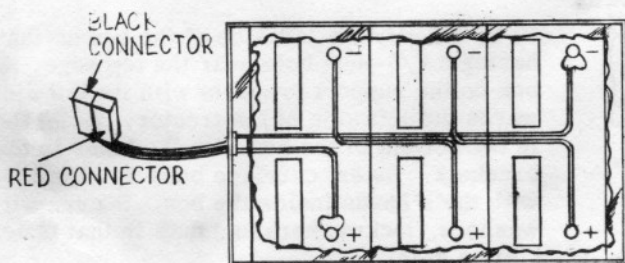

Figure 10
8. Carefully set the batteries inside the bag, as shown in Fig. 10, observing the polarity markings. Make sure the sides of the bag remain above the top surfaces of the batteries in equal amounts. (It may help to tape the upper edges of the bag to the box's sides temporarily to permit easy insertion of the batteries.)
10. Connect the battery cables in accordance with Fig. 10. Observe the clamp polarity markings. Coat the terminals after the connections are made with a thin film of Battery Terminal Grease, AP31. Make sure all surfaces are coated!